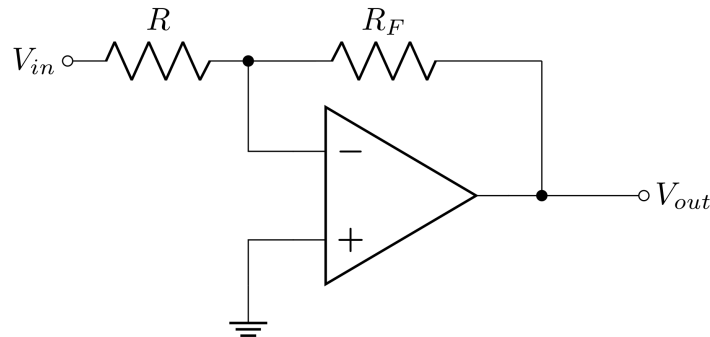
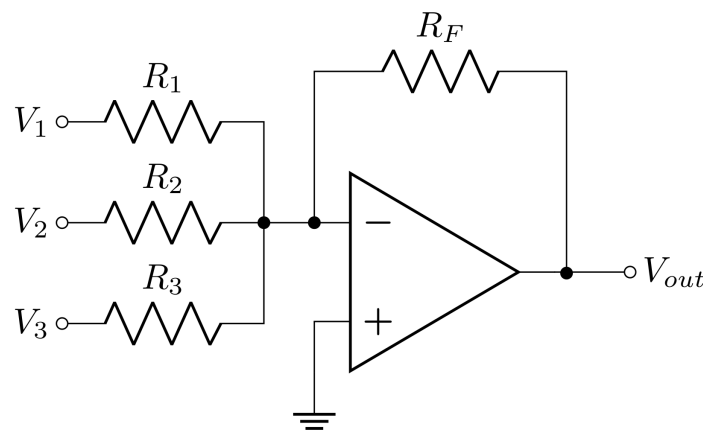
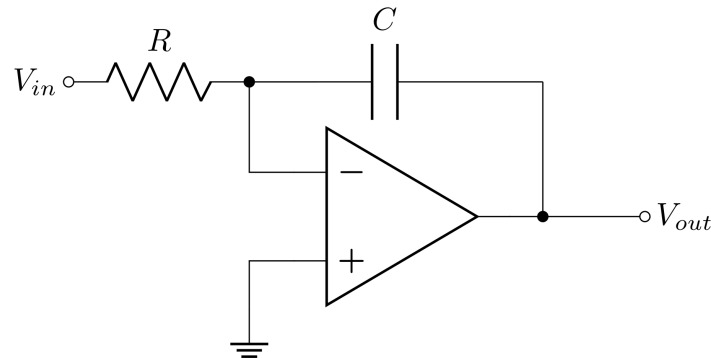

Figure 1: Inverting amplifier
Figure 2: Summing amplifier
Figure 3: Integrator
The basic inverting amplifier is shown in Figure 1. We can use the Golden Rules to determine the low-frequency gain. Since the positive input is grounded, the op-amp will do everything it can to keep the negative input at ground as well. In the limit of infinite open loop gain the inverting input of the op-amp is a virtual ground, a circuit node that will stay at ground as long as the circuit is working, even though it is not directly connected to ground. When ***A is infinite***, the gain of an inverting amplifier is
The Summing Amplifier, shown in Figure 2, is a very flexible circuit based upon the standard inverting op-amp configuration that can be used for combining multiple inputs. The standard inverting amplifier, shown in Figure 1, has a single input voltage, V_{in} , applied to the inverting input terminal. If we add more input resistors to the input, the circuit can become a voltage adder with different gain for each input. There are many applications for summing amplifiers including audio mixers and digital to analog converters. Using the Golden Rules we can determine the transfer function listed below.
The basic op-amp integrator is shown in Figure 3. As compared to the inverting amplifier in Figure 1, the only change is a replacement of the feedback resistor R_F with a capacitor C . An integrator is the same circuit as a low-pass filter. If you are interested in what frequencies get passed, you call it a low-pass filter. If you are interested in integrating the input signal, you call it an integrator. We can understand how the integrator works by applying the Golden Rules and remembering the defining equation for capacitors. Just as in the integrating amplifier, the Golden Rules tells us that $V_- \approx V_+ = 0$ and that the current across both components is the same because no current flows into the op-amp. We label I_R as the current through the resistor, which is V_{in}/R since V_- is at ground. We label I_C as the current across the capacitor. The defining equation for capacitors is $Q = CV$. The current through a capacitor is $I = dQ/dt = d(CV)/dt = C dV/dt$. Therefore, the equation $I_R = I_C$ becomes:
1. Calculate the values of low frequency gain, G_0 , and the bandwidth, f_B , for the inverting amplifier in Figure 1 for the following circuit you will build in lab with the following resistors: $R_F =$
1. Design a three input summing amplifier (Figure 2) that can create an analog voltage of integers from 0 to -7 volts ($|V_{out}| = 0, 1, 2, 3, 4, 5, 6, \text{ and } 7\text{ V}$) using only two possible input states on each input ($V_{low} = 0\text{ V}$ and $V_{high} = 1\text{ V}$). Draw a schematic of your circuit and label all the resistors. *Hint: Write down the binary numbers from 000 binary = 0 in decimal to 111 binary = 7 in decimal. Think about the relative values of R_1 , R_2 , and R_3 . We suggest you use $R_F = 40\text{ k}\Omega$.*
1. Design an integrator based on Figure 3 and the discussion above. Choose values for the components (resistors and capacitors) and describe why you chose those values.
1. Build the inverting amplifier shown in Figure 1, with $R_F = 100\text{ k}\Omega$ and $R = 10\text{ k}\Omega$. Measure R and R_F with the DMM before inserting them into the circuit board. Predict G_0 and f_B from these measured values and the op-amps value of f_T from the data sheet. (You should be able to review your prelab work here!)
1. Modify your basic inverting op-amp circuit to make it a summing amplifier as shown in Figure 2.